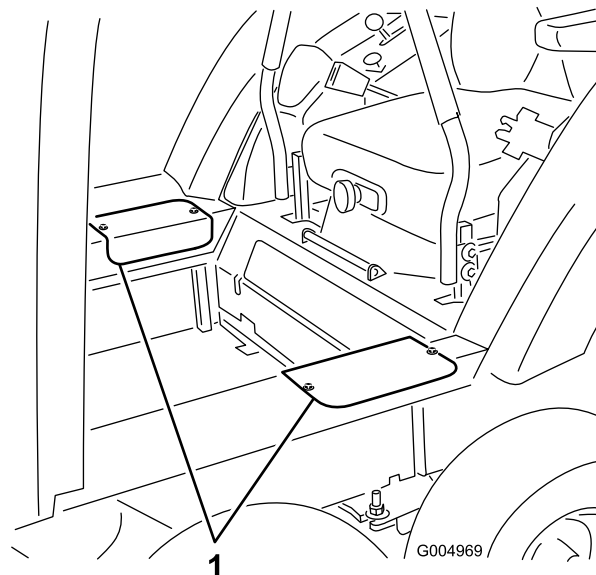

Figure 56
23. Re-install the side access covers with the screws previously removed (Figure 56).